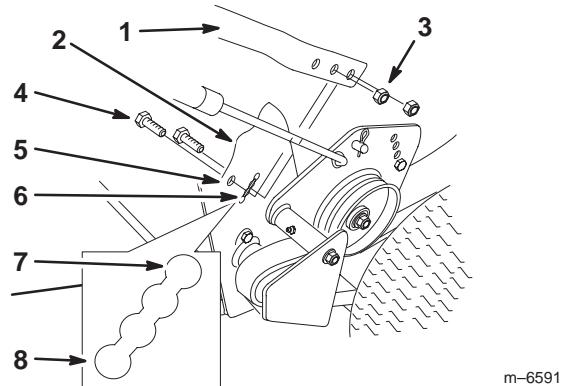

Figure 26
1. Remove hairpin cotter, washer and clevis pin securing control rod fitting to idler bracket (Fig. 26).
2. Loosen the upper flange bolts (3/8 x 1 inch) and flange nut securing handle to rear frame (Fig. 26).
3. Remove the lower flange bolts (3/8 x 1 inch) and flange nuts securing handle to rear frame (Fig. 26).